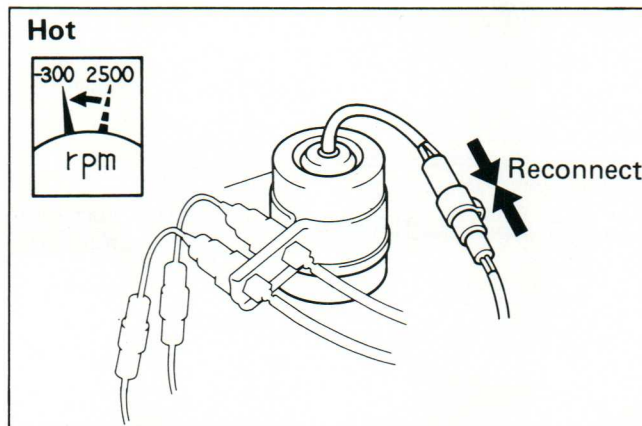

Figure 248-6
d. Reconnect the connector and check that the engine speed momentarily drops about 300 rpm (Figure 248-6).